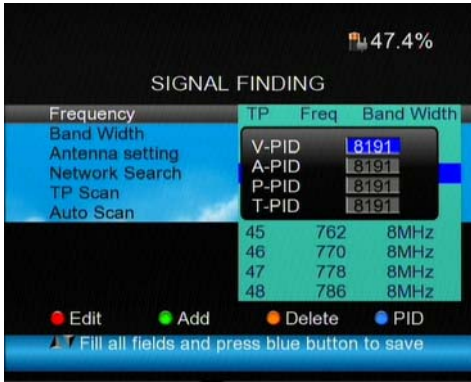

Figure12. PID Information of Frequency
- (6) Press <BLUE> button to see the PID information of the frequency. See figure 12.